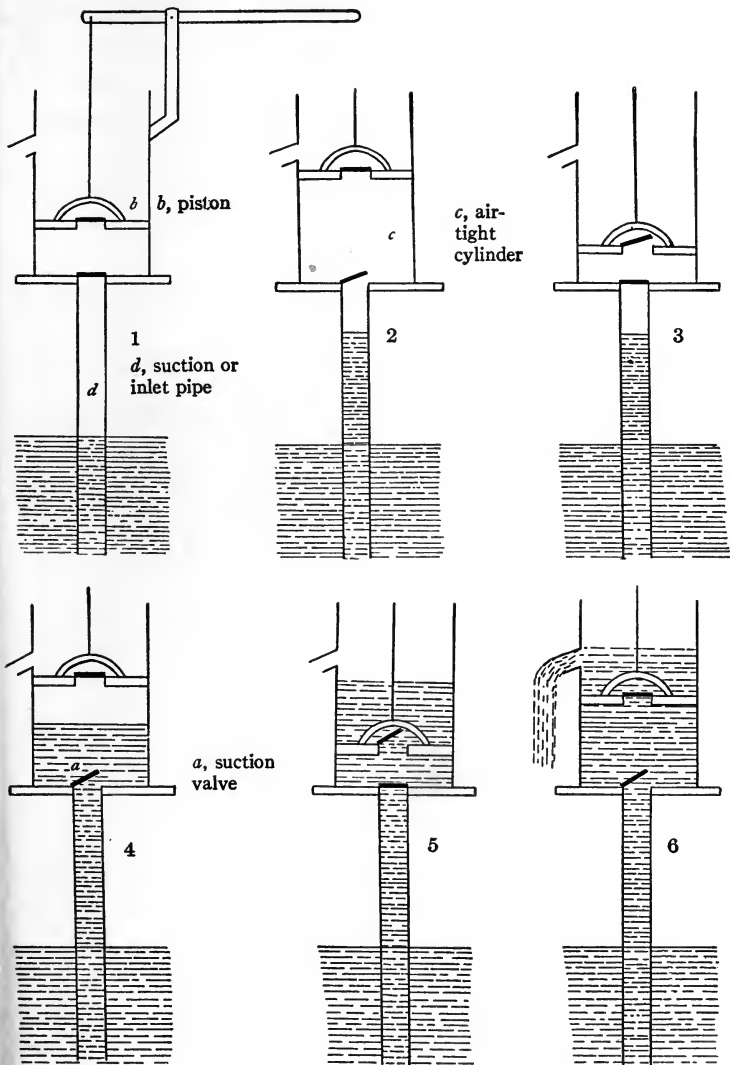

FIG. 194. — Diagram of the process of pumping.
In order to understand the action of a pump, we will suppose that no water is in the pump, and we will pump until a stream issues from the spout. The various stages are represented diagrammatically by Figure 194. In (1) the entire pump is empty of water but full of air at atmospheric pressure, and both valves are closed. In (2) the plunger is being raised and is lifting the column of air that rests on it. The air and water in the inlet pipe, being thus partially relieved of downward pressure, are pushed up by the atmospheric pressure on the surface of the water in the well. When the piston moves downward, as in (3), the valve in the pipe closes by its own weight, and the air in the cylinder escapes through the valve in the plunger. In (4) the piston is again rising, repeating the process of (2). In (5) the process of (3) is being repeated, but water instead of air is escaping through the valve in the plunger. In (6) the process of (2) is being repeated, but the water has reached the spout and is flowing out.